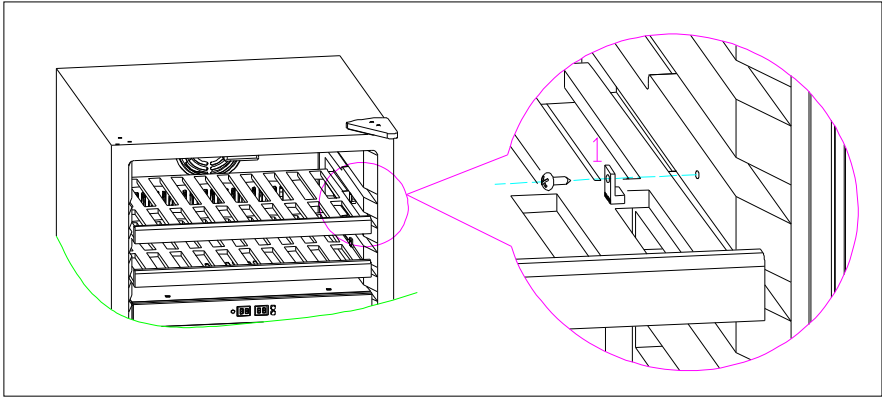
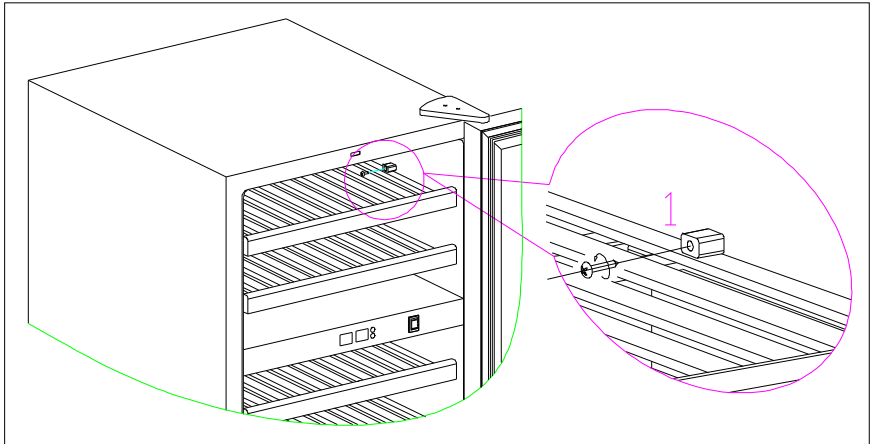

Fig.1
Fig.1.1
a. Remove the shelves; some models have Phillips head screws to hold other models have no screws (Fig.1& Fig.1.1)
4>. For a View of the internal configuration after removal of the air duct board, see (Fig.1